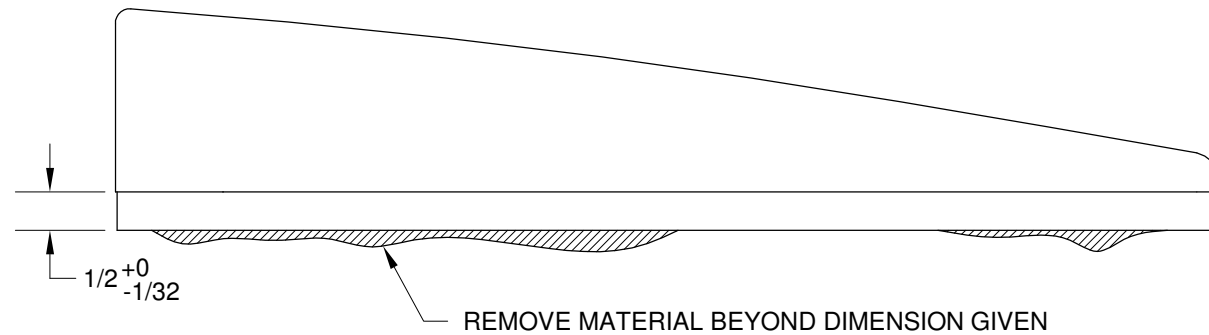

FIGURE 2:
Step 2: Trim any extra material from the recessed area of the R-1206 Rudder Tip Fairing per dimension given in Figure 2. Coarse 80 grit sandpaper on a wood block works well for this step.